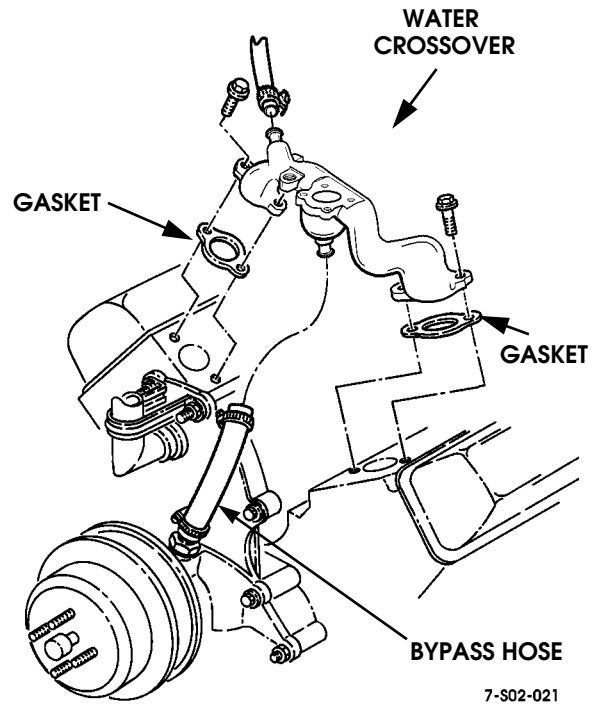

Figure 2-210: Water Crossover Installation (NA Shown)
1. Apply Permatex #2 to crossover gaskets and position gaskets on cylinder heads (Figure 2-210).
3. Connect bypass hose to water pump (Figure 2-210).
5. Connect bypass hose to crossover hose fittings on crossover (Figure 2-210).